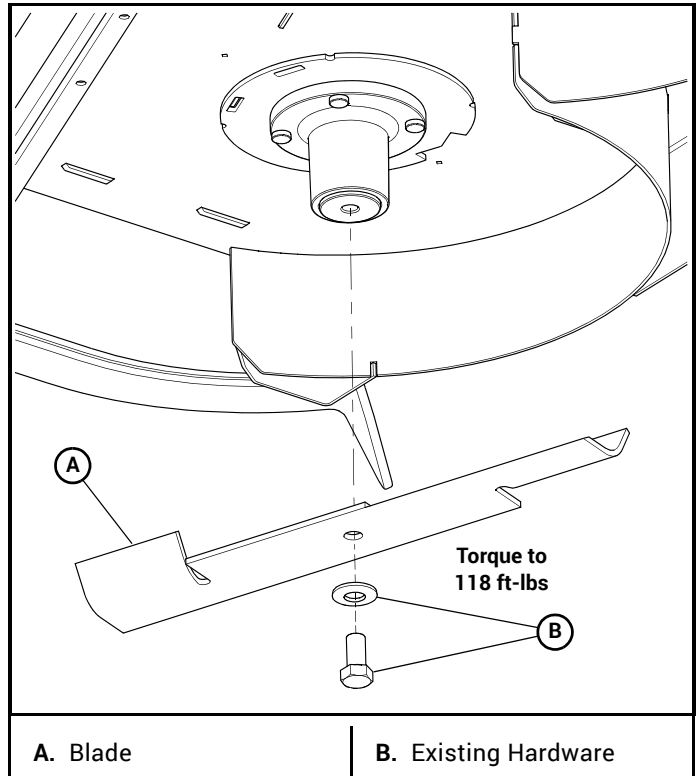

Figure 3-1
4. Install the appropriate blade as indicated by the label on the blade. The 42" and 60" deck use the same blade. Figure 3-1